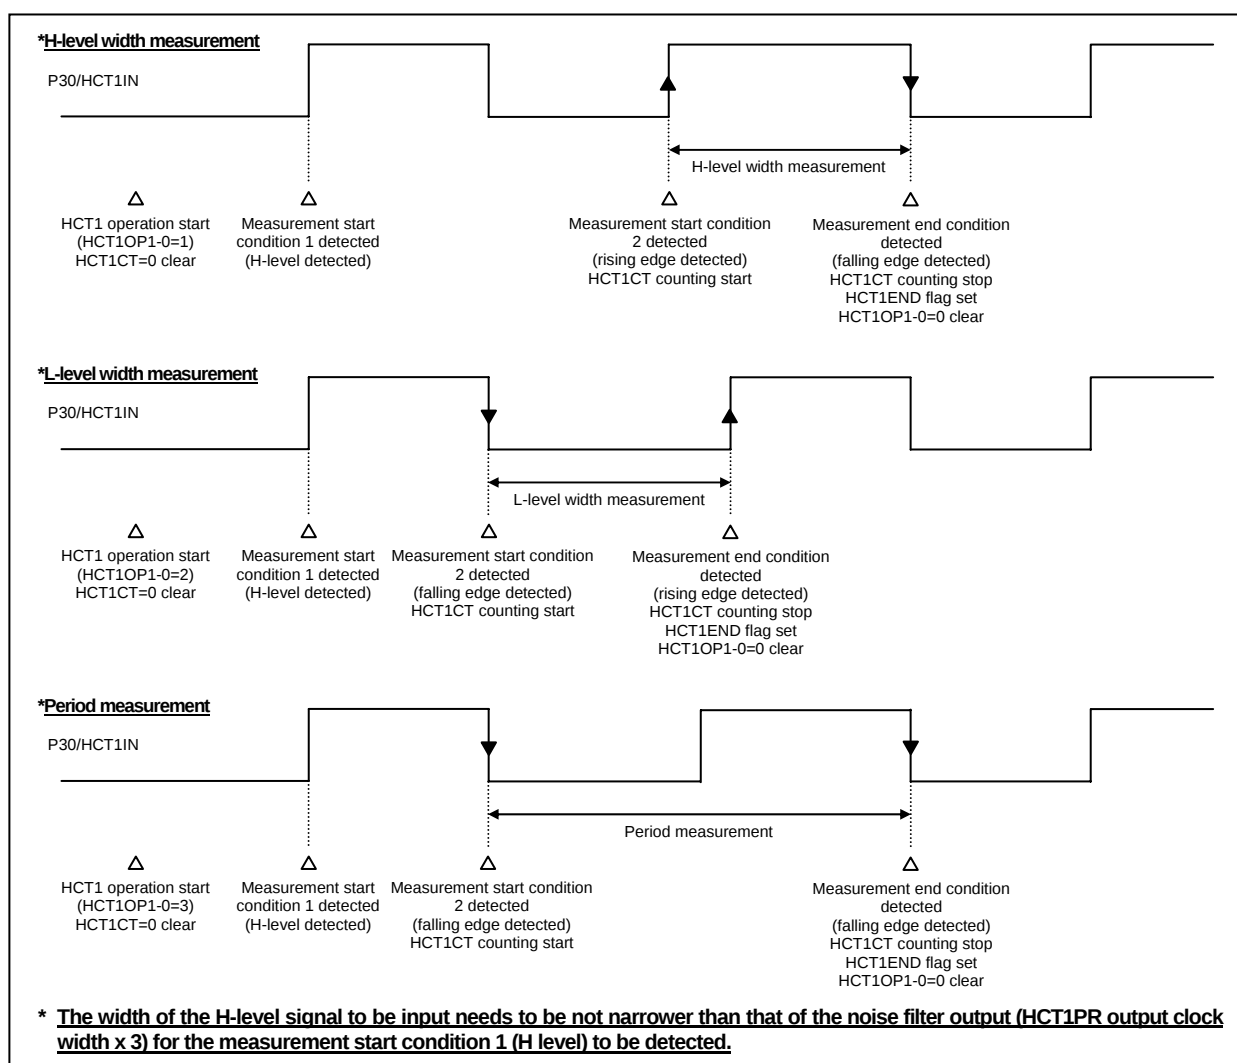

Figure 3.7.2 Sample High-speed Pulse Width/Period Measurement Counter 1 Waveforms
* See Figure 3.7.2 for details.
* The measurement starts when the specified measurement start condition is detected after HCT1OP1 and HCT1OP0 are set to a nonzero value (see Figure 3.7.2 for details).
This bit is set to 1 when the end of HCT1 measurement condition is detected (see Figure 3.7.2 for details).